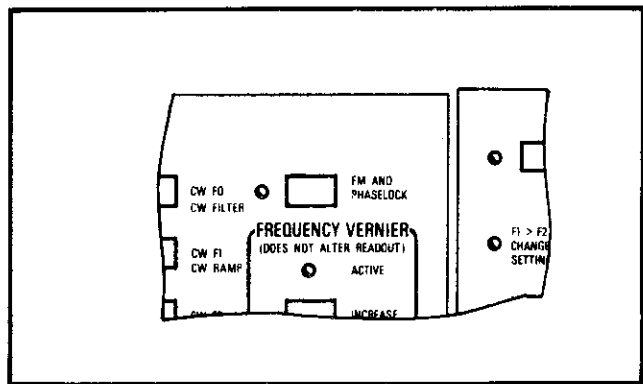

Figure 3-13. FM AND PHASELOCK Pushbutton
d. **FM AND PHASELOCK Pushbutton** (Figure 3-13). This pushbutton allows the sweep generator output frequency to be either frequency-modulated or phase-locked to an external frequency standard. The external FM or phase-lock signal is input via